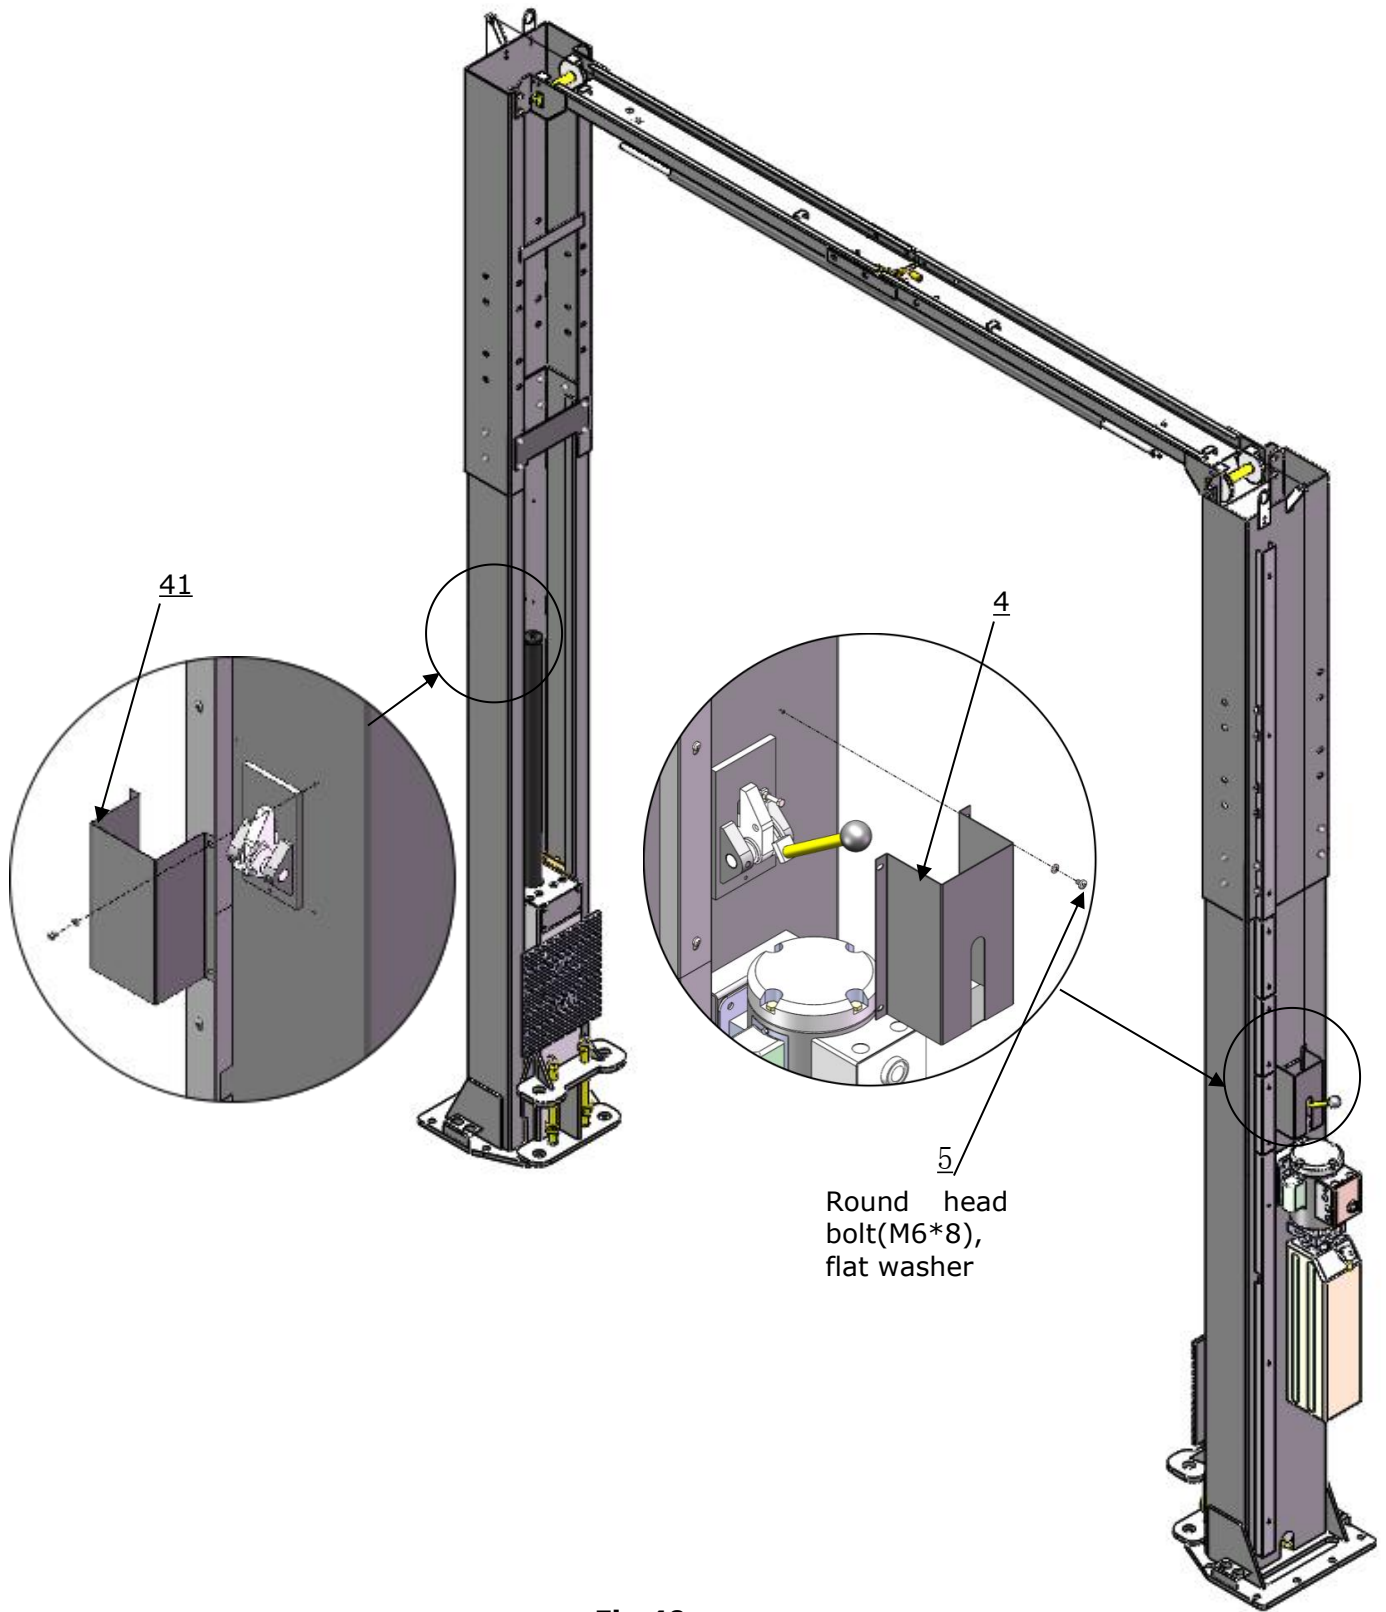

Fig.40
P. Install safety device cover (See Fig. 40)